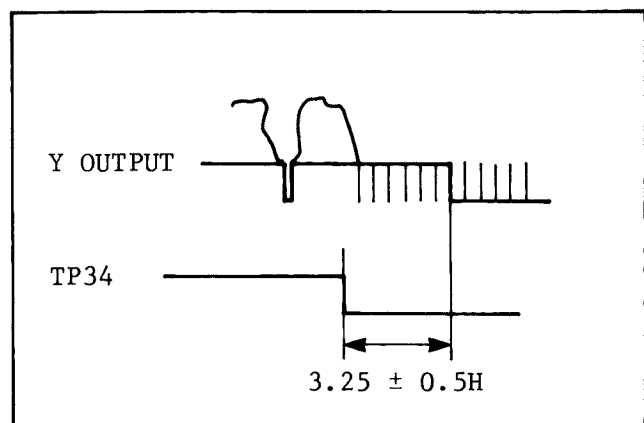

Fig. 2-4-8: PG SHIFTER A
10. Adjust VR12 (PG SHIFTER A) so that the falling edge of the switching pulse is $3.25H \pm 0.5H$ before the start of the vertical sync, as shown in Fig. 2-4-8.